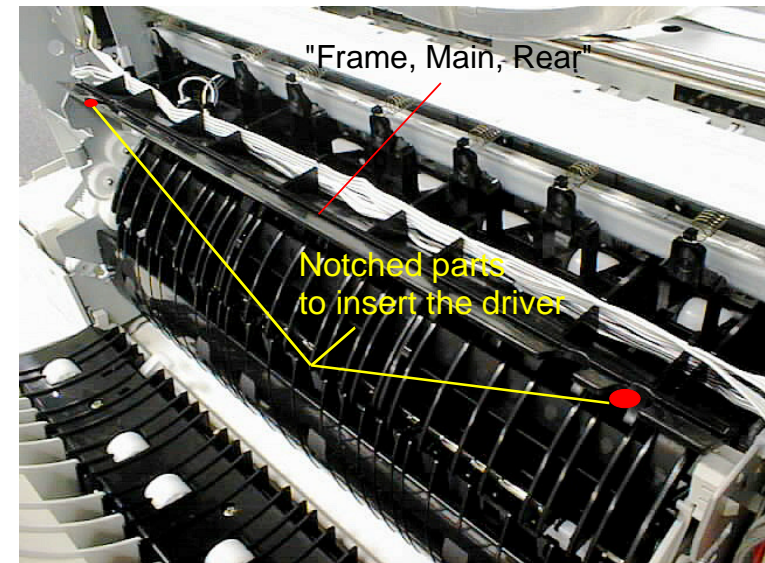

Figure 4-10. MB Rear Unit Removal (1)
3. Looking from back side of printer, insert the plus screw driver into the notch which is located at "Frame, Main, Rear" and remove 2 CBP screws(4x12) securing the mechanism to "Housing Lower". (Refer to Figure4-10)